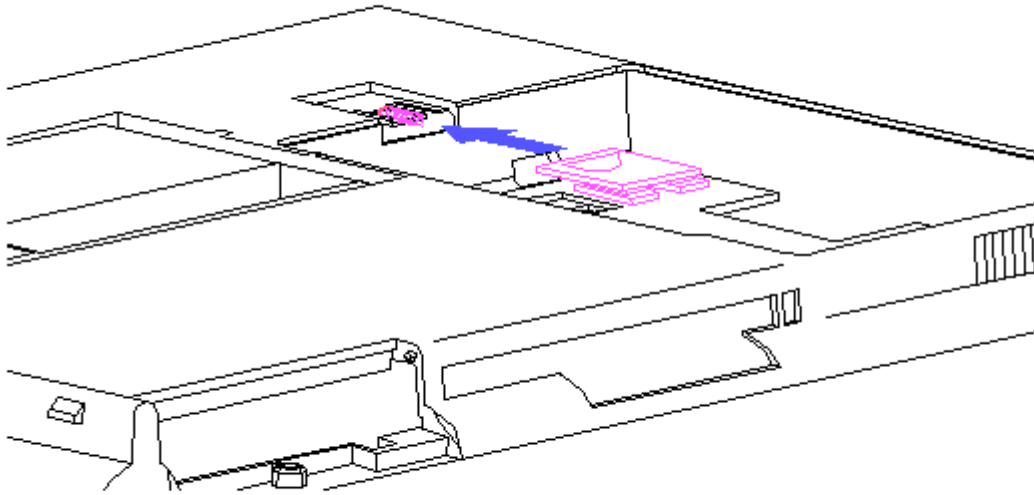

Figure 3-28. Removing and Replacing the Latch and Spring
5. Turn the back cover over and remove the latch and spring (Figure 3-28).
6. To install the latch and spring, position the spring in its seat and snap the latch into place (Figure 3-28).